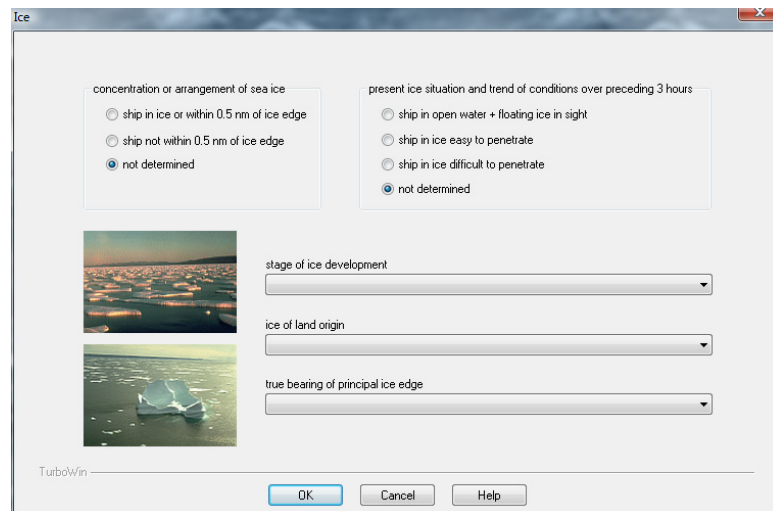

Figure 33. Ice (Sea Ice) dialogue box
- 10.15.2.** A report of sea ice includes: the amount and concentration of sea ice; its origin; its state of development; and the proximity of the ship to the sea ice. See **Figure 33**.